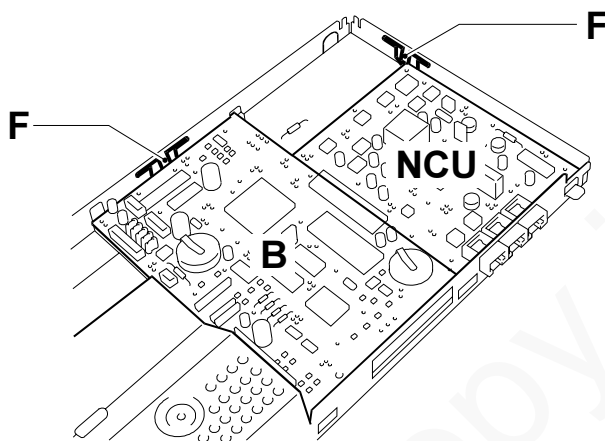

Fig. 7-17
- 3) Release the assembly of motherboard **B** and board **NCU** from the related latches **F** and extract it from the base, then separate the boards (Fig. 7-17):